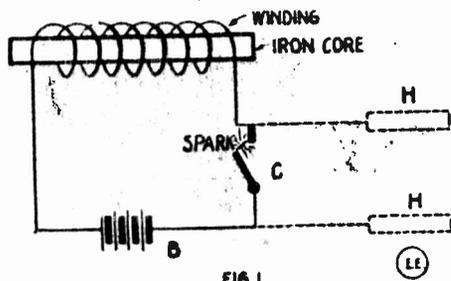

FIG. 1
**A**n arc light that speaks, although not new by any means, is always of considerable interest to experimenters and forms a very excellent demonstrating device for lecturers; and besides speaking arc lights have been adapted to the announcement of train arrivals and departures in large railway stations, et cetera. To make up an experimental arc set of this type does not necessitate any great outlay, or require any extremely elaborate instruments. At Fig. 1, is outlined the common-
choke coil and switch S.W. is shown at Fig. 4. Some operators prefer to super-impose the talking currents across the arc, as indicated in dotted lines at Fig. 1, by utilizing a 1/2 micro-farad condenser, (can be bought of the E. I. Co. at 80 cents), connected in series with the secondary of a telephone induction coil of 150 ohm type, I C; and in whose primary circuit is connected the usual microphone transmit-
of the coil, and is the result of the following action. Referring to Fig. 1, the circuit of a wiper spark coil, with battery B, and make and break contact C, is plainly shown. When the contact is closed, the battery current flows around the coil, having the soft iron wire core within it, and strongly magnetizes the core. At the instant the contact breaks the circuit, the magnetism in the iron core collapses or dies down very quickly, and this rapid change in the value of the magnetic flux, causes a current of great instantaneous value to be generated in the coil or winding, and this is the current creating the bright spark seen on quickly opening such a circuit. It has great calorific or igniting value, and is much employed for lighting gas jets, exploding gas engine mixtures, etc. If
two metal handles or electrodes are attached to either side of the break contact, as indicated by the dotted lines, in Fig. 1, a shock will be felt, whenever the circuit is broken. The self-induced break current, is often termed a "kick current," in electrical parlance and the coil is referred to as a "kick coil" or "inductance coil."